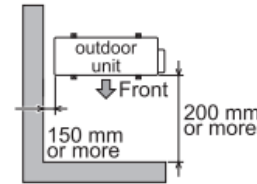

Fig. 2-3
■ When there is no obstruction at the back (suction side) (Top view)(Fig. 2-3)